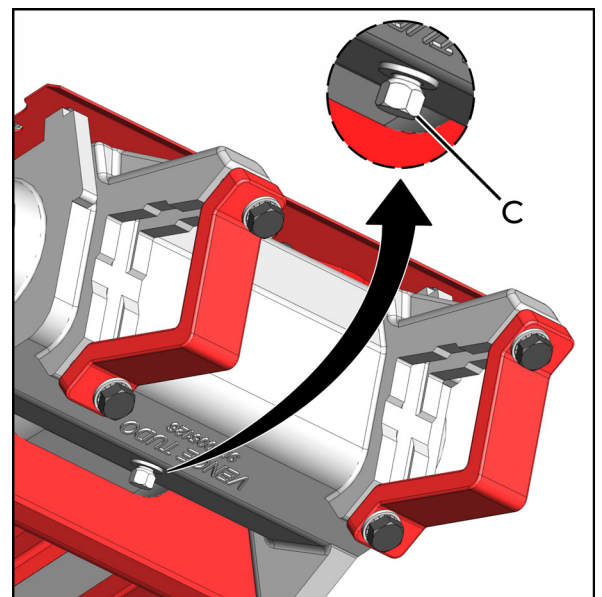

fig. 13
5. Change the lubricant oil **every 450 hours of work** or at the end of each harvest, removing the stopper (C) (fig. 13) and proceeding as in item 2.